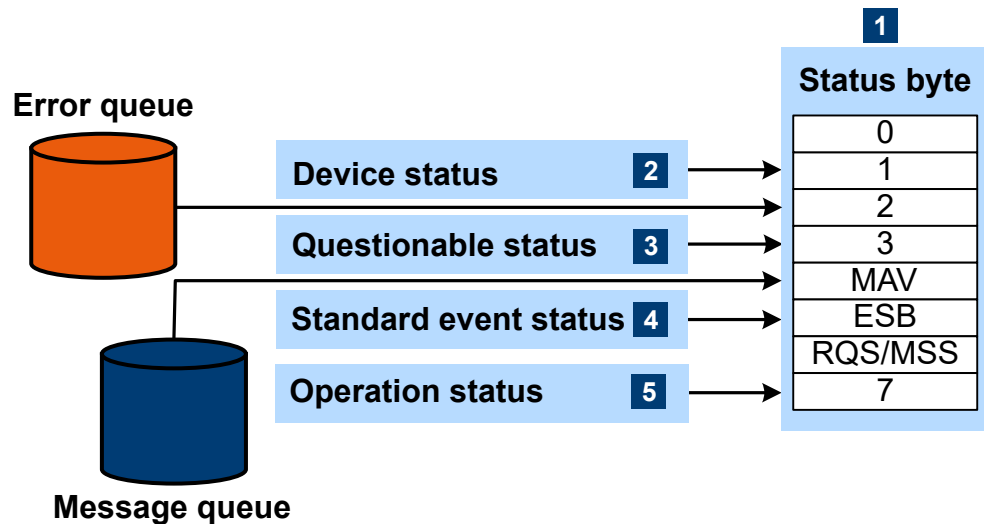

Figure 10-1: Status registers overview
Fig.10-1 shows the hierarchical structure of information in the status registers.
- See Figure 10-1.